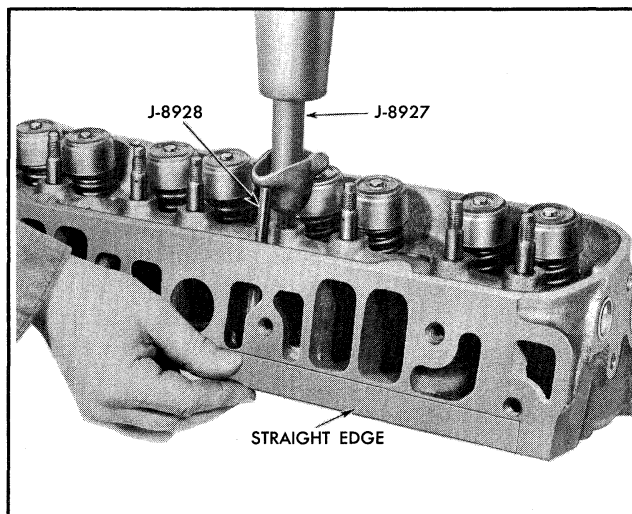

Fig. 6-109 Pressing in New Rocker Arm Stud
9. Coat rocker arm stud with white lead and oil and with cylinder head mounted in press on tool J-5712, so studs are vertical, position new stud with rocker arm and rocker arm stud installer over hole in head (Fig. 6-109).
11. Clamp straight edge on cylinder head as shown in Fig. 6-109 and position valve train gauge J-8928 in push rod hole so that it seats properly in the rocker arm.